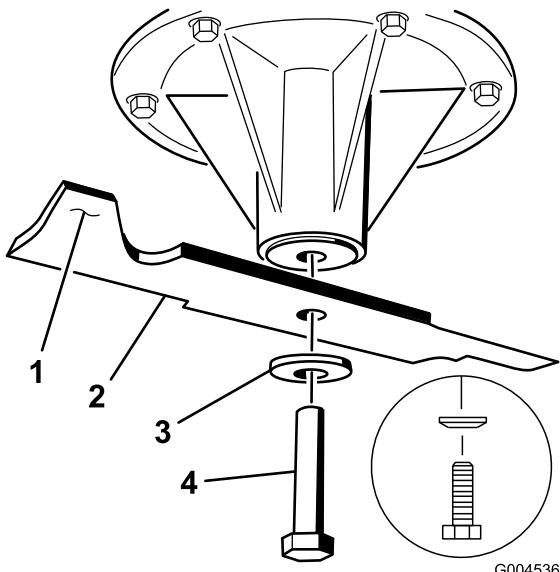

Figure 82
1. Install the blade onto the spindle shaft (Figure 82).
2. Install the spring disk and blade bolt. The spring disk cone must be installed toward the bolt head (Figure 82). Torque the blade bolt to 85-110 ft-lb (115-150 N-m).